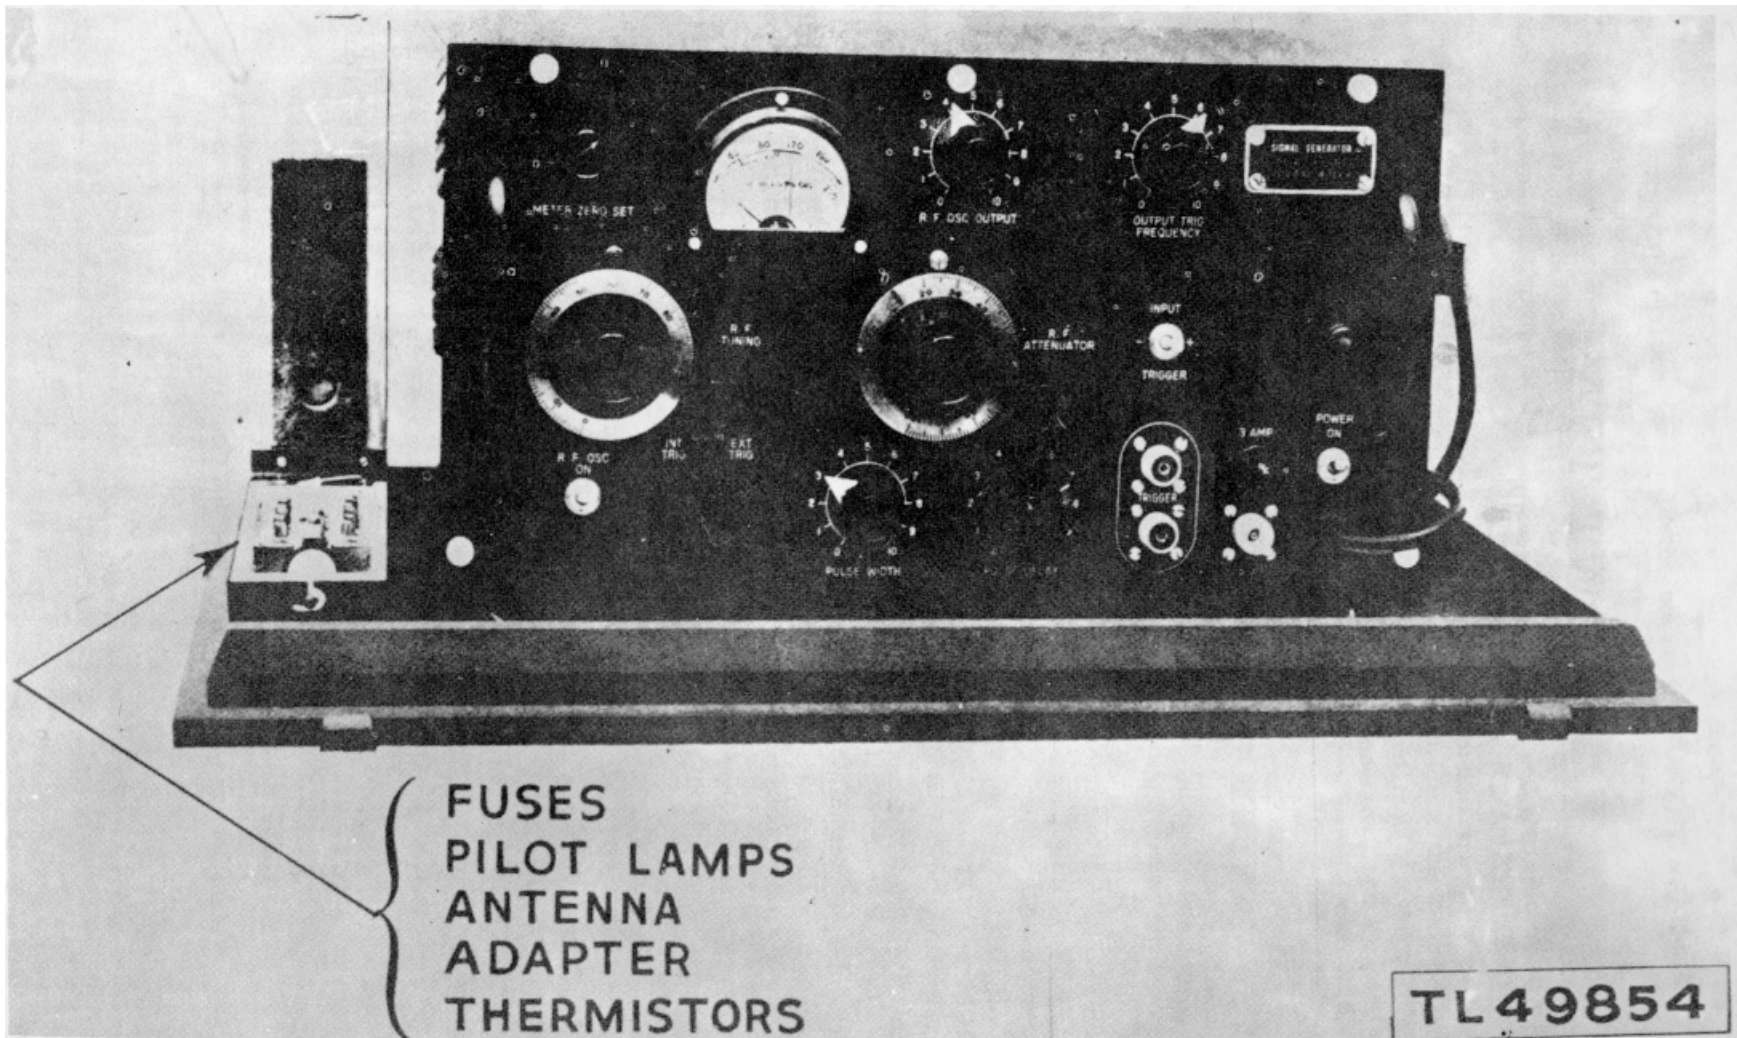

Figure 1. Signal Generator TS-155/UP
Signal Generator TS-155/UP (fig. 1) is a generator of pulse-modulated, calibrated, radio-frequency (r-f) signals. It is used for testing the operation of radar sets in the band of frequencies from 2,700 to 2,900 megacycles per second. As a signal generator it measures or checks the sensitivity of the radar receiver; as an r-f wattmeter it measures or checks the power output of the radar transmitter.
c. *Transit Case.* The transit case consists of a wooden box with handles and a removable cover. The cover contains two compartments for storing the trigger and antenna cables and a copy of this technical manual. The top of the cover contains a felt cushioning strip mounted on a shock absorber, which presses on the top of the signal generator when the cover is closed. The signal generator is mounted on four shock absorbers on the base of the transit case (fig. 1). A small box containing the dipole antenna, the adapter, and the running spares listed in subparagraph d below is mounted on the base alongside the signal generator.